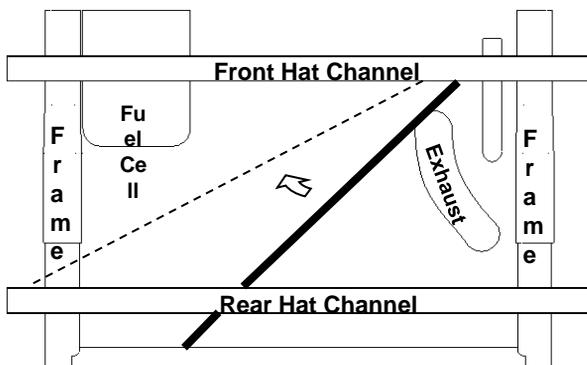

Figure 8
6. Insert rails as shown in the following steps (**Figures 8 through 13**). With flat side up insert rear rail first rail followed by the front rail with flat side up.